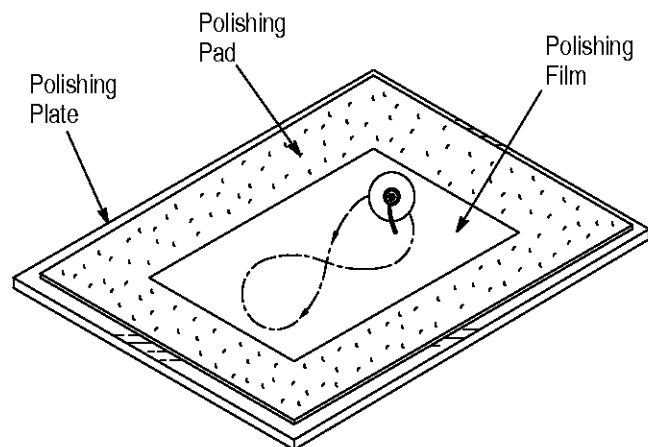

Figure 17
4. For the stainless steel and ceramic ferrule, place the black resilient polishing pad (such as AMP Polishing Pad 504584-1) on the polishing plate. Remove the adhesive backing from the pad before placing on the plate. See Figure 17.
7. For NeXTC, place white woven pad (such as AMP Polishing Pad 501523-1) on the polishing plate. Remove the adhesive backing from the pad before placing on the plate. See Figure 17.
10. Gently insert the connector into the polishing bushing and move the bushing in a figure-8 motion (see Figure 17), supporting the weight of the connector for the first three figure-8 motions to prevent the fiber from scoring the film or breaking.